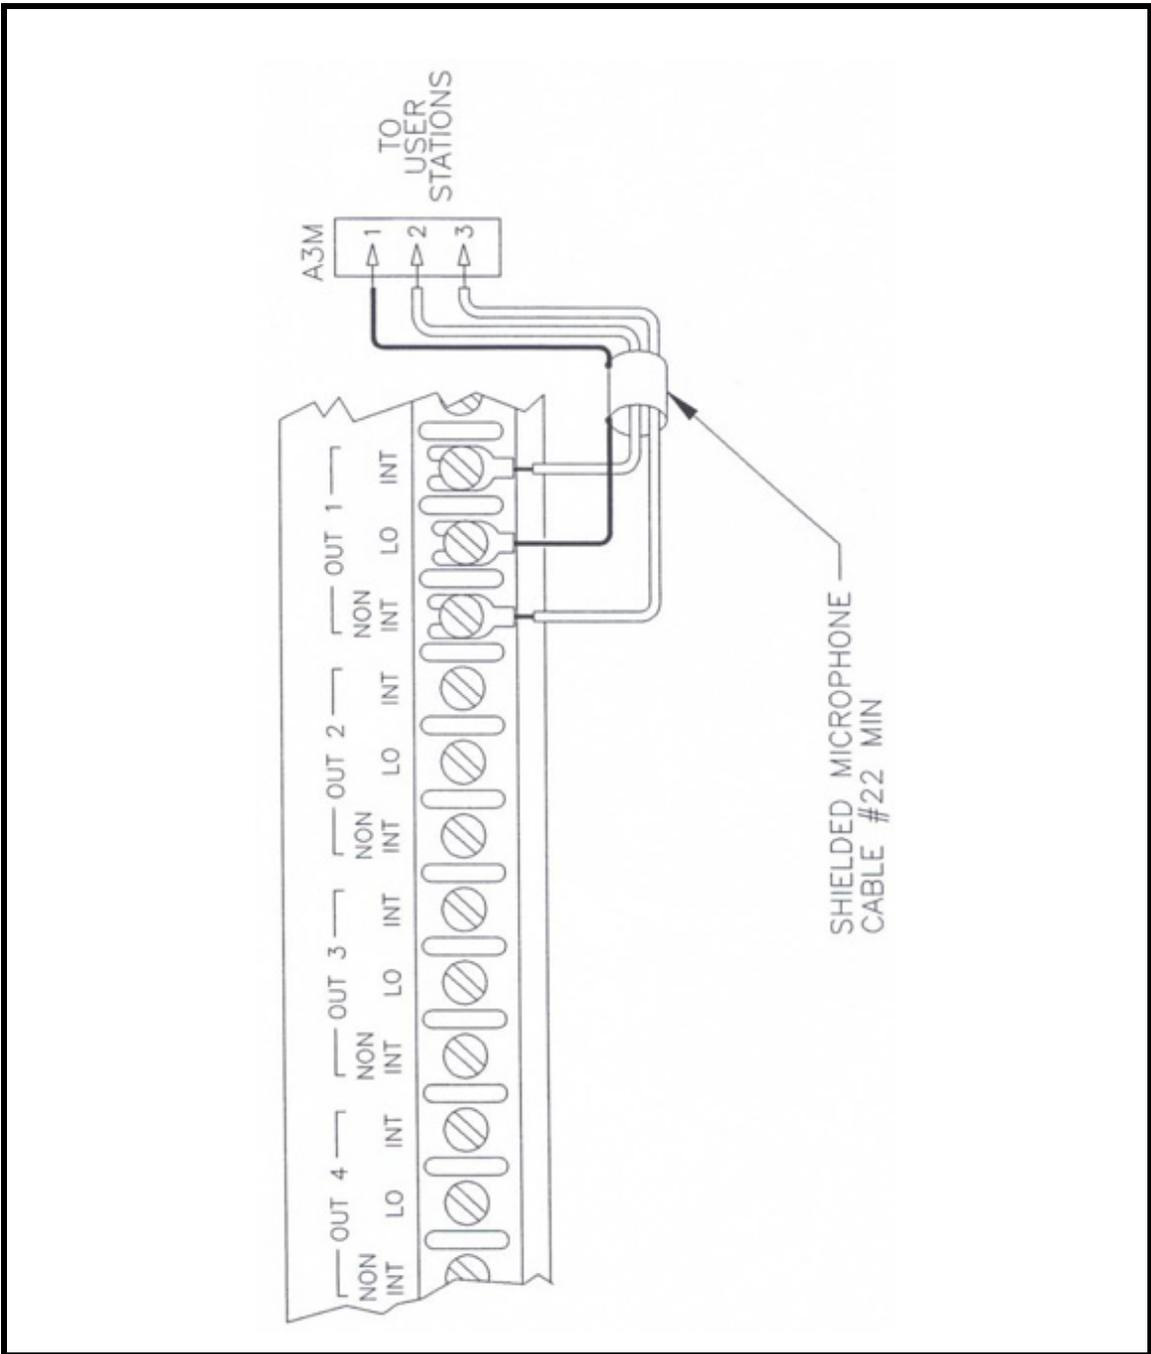

FIGURE 5. User Station Connection to the 4010
The Control Stations are connected to the Central Electronics with 50-conductor ribbon cables. Model 4015-XX. The XX is the cable length in feet. These cables may be ordered in 5-foot increments from five (5) feet to 100 feet. The maximum recommended cable length is 100 feet from any Control Station to the Central Electronics. The user stations are connected to the Central Electronics through standard 2-conductor-plus-shield microphone cable (e.g., Belden #9451). A Smith #5209 spade-lug attaches to the rear panel terminal strip. See Figure 5.